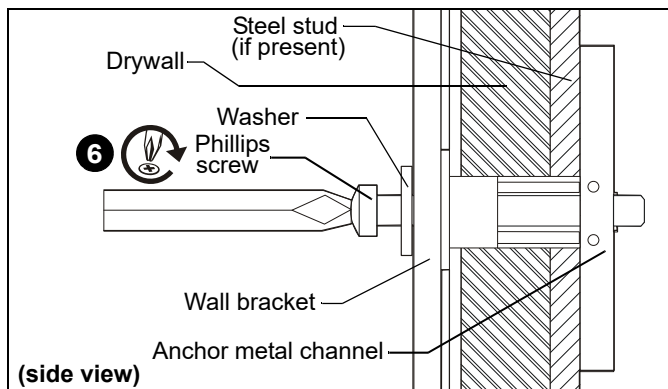

Figure 27
6. Insert 1/4-20 x 1-3/4" Phillips pan head screw through 1/4" washer, corresponding mounting hole in wall bracket and into anchor, and tighten until flush against wall bracket. DO NOT over tighten! (See Figure 27)